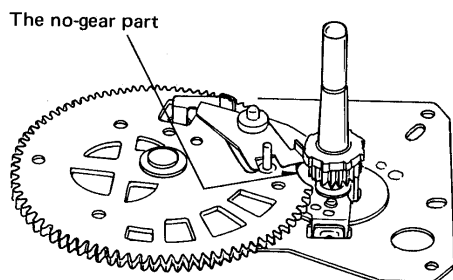

Fig. 6
- (1) Turn the turntable shaft to rotate the main gear until it comes to the no-gear part. (Fig. 6)